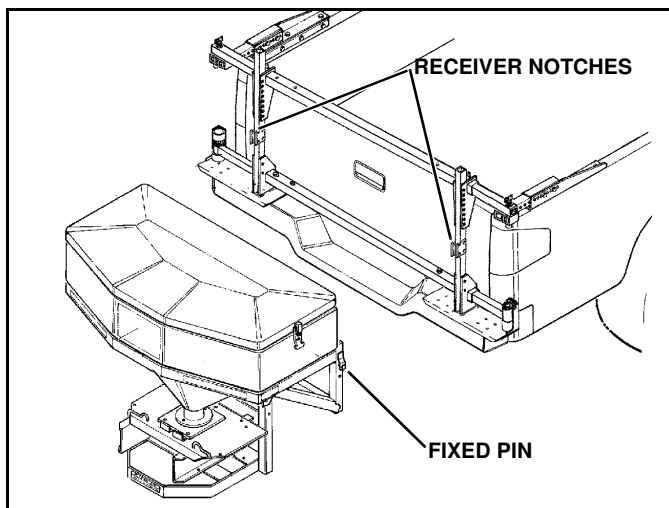

Figure 1-14
2. Lift Spreader Hopper Assembly, position Hopper Frame against Mounting Frame, and lower Hopper Frame Fixed Mounting Pins into Receiver Notches in Mounting Brackets on each side of Mounting Frame. (See Figure 1-14)